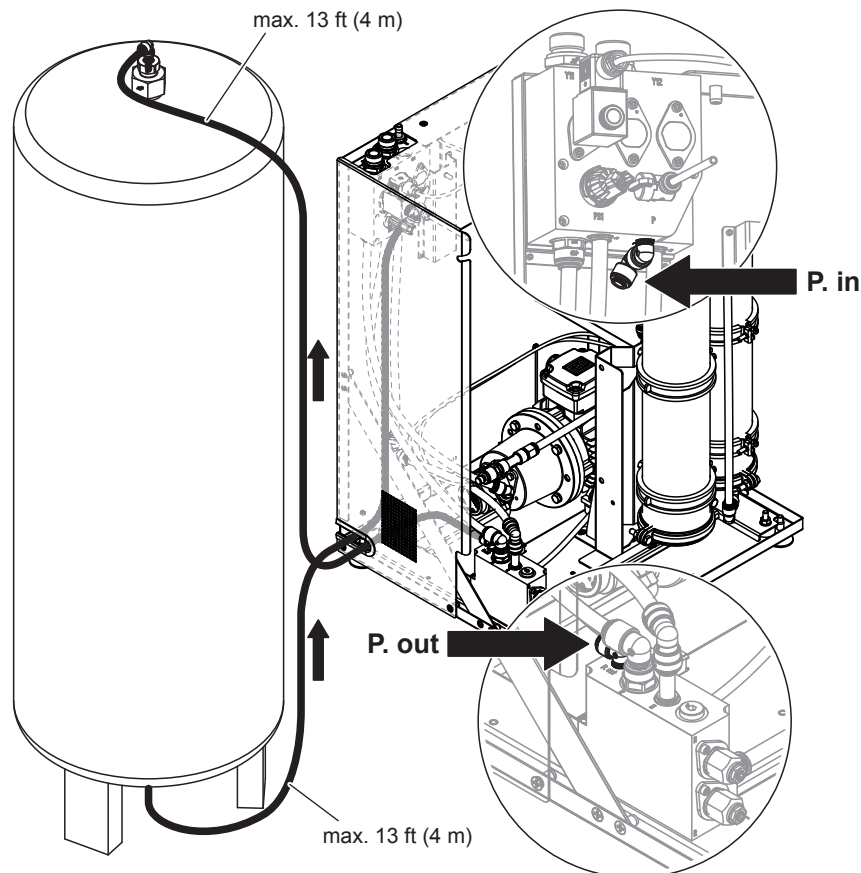
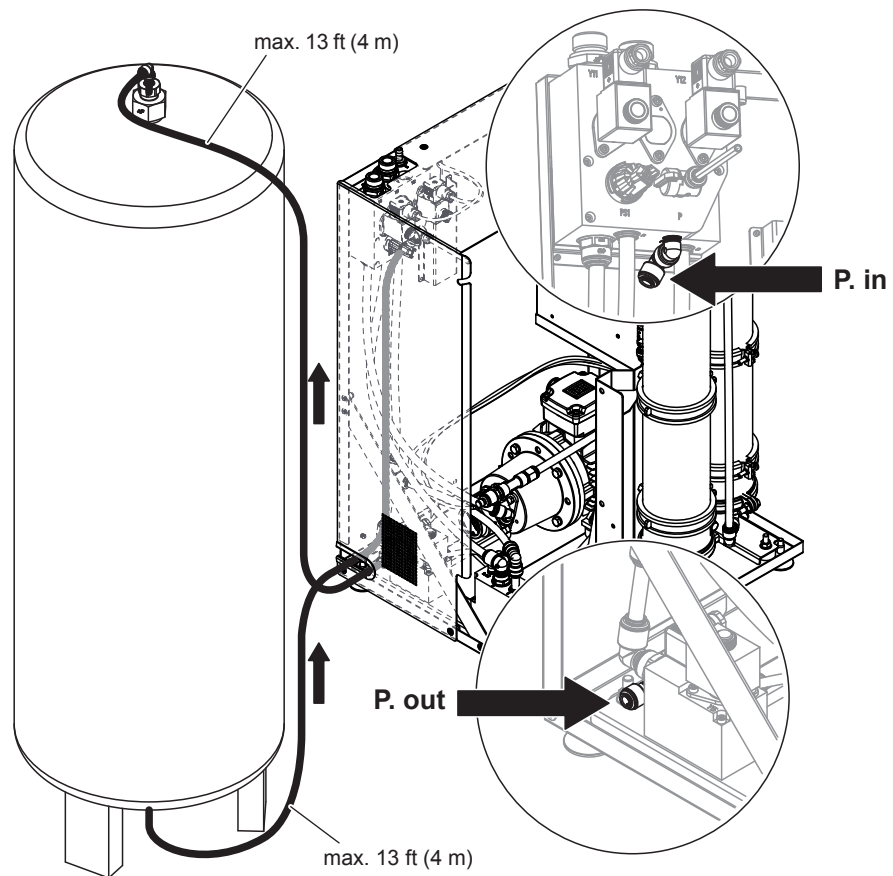
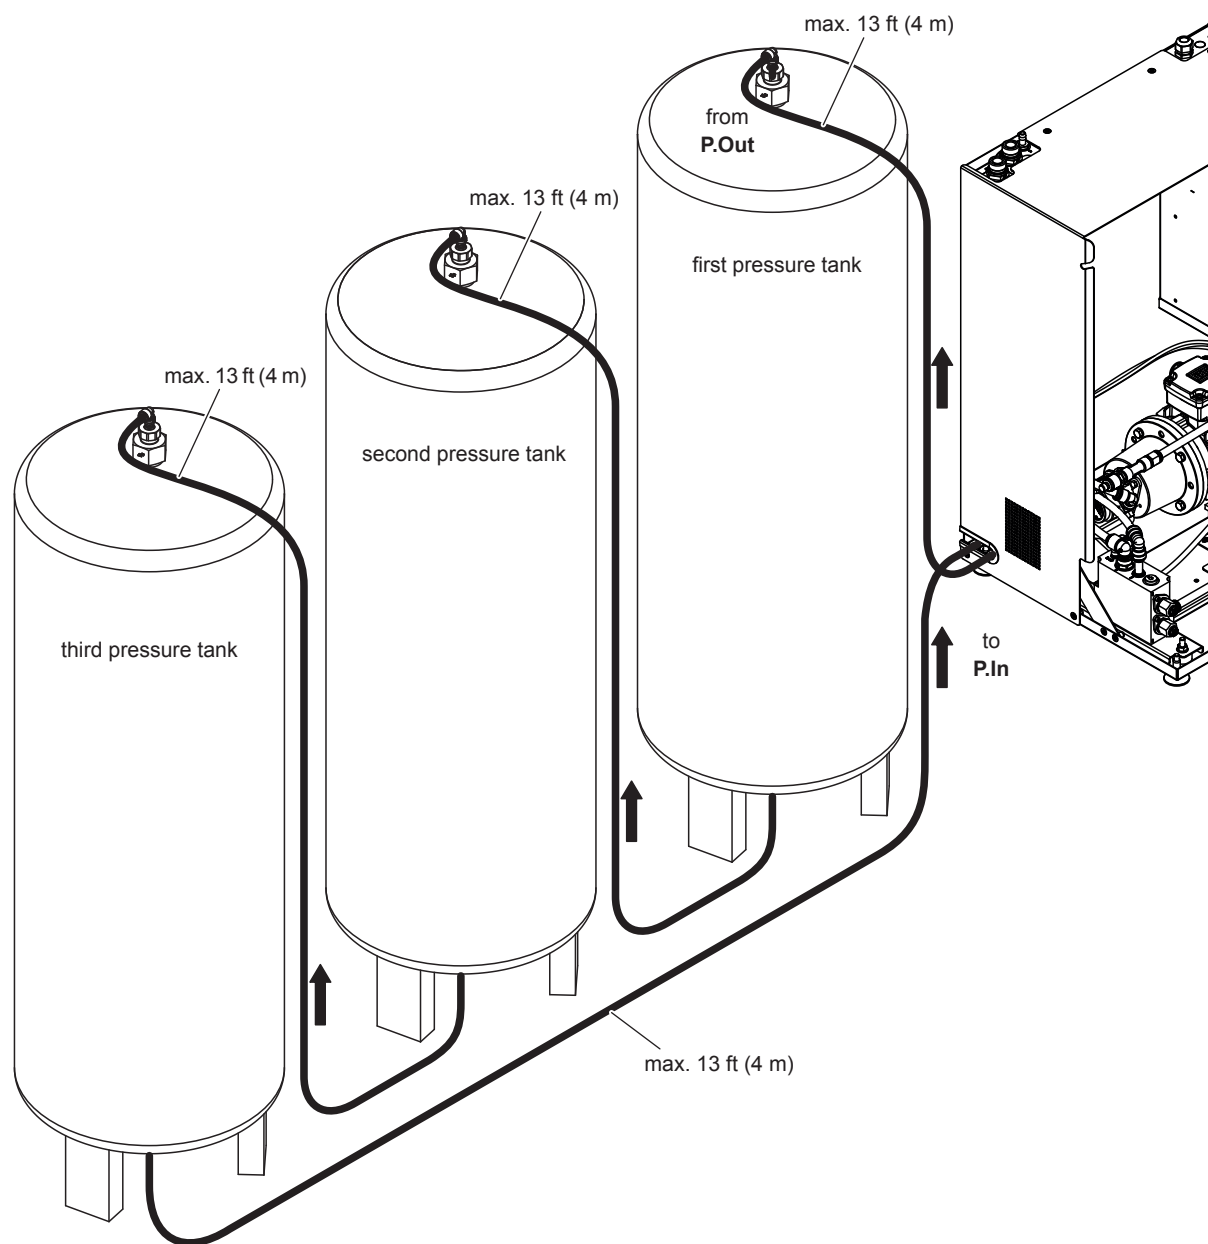

Fig. 11: Connecting the external pressure tank to the Condair RO-E 200/300 pure water system (figure shows RO-E 200, unit cover removed for better visibility)
Fig. 12: Connecting the external pressure tank to the Condair RO-E+ 200/300 pure water system (figure shows RO-E+ 200, unit cover removed for better visibility)
Fig. 14: Connecting several external pressure tanks to the Condair RO-E(+) pure water system
Important: The maximum hose lengths shown in Fig. 11 to Fig. 14 must not be exceeded. Make sure the connection hoses are not routed higher than the connection on top of the pressure tank(s).
4. Connect the supplied black JG hose $\varnothing 8$ mm to the angle connector of the "P. out" connection of the corresponding logic block (see Fig. 11 or Fig. 12) or of the internal pressure tank (see Fig. 13), and lead the hose to the **upper** connection on the (first) external pressure tank, cut the hose to length and connect it to the angle connector of the pressure tank.
Up to three external pressure tanks can be connected to a RO-E(+) pure water systems according to the schematic diagram shown in Fig. 14.